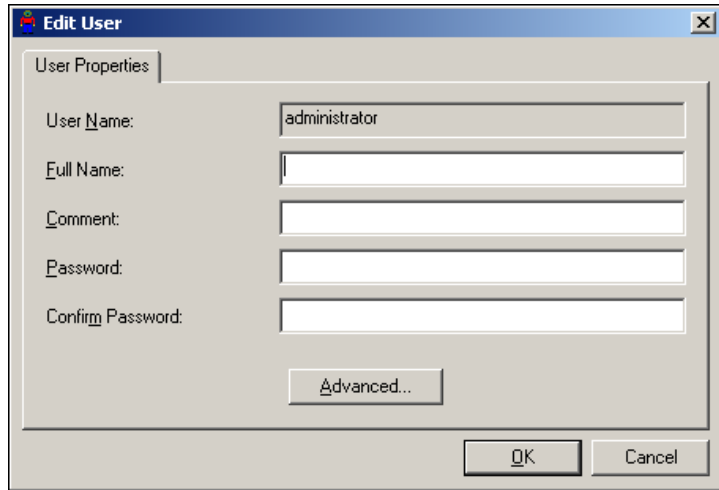

Figure 2-6. Edit User Dialog Box
1. Click **Edit** to open the Edit User dialog box, shown in Figure 2-6.